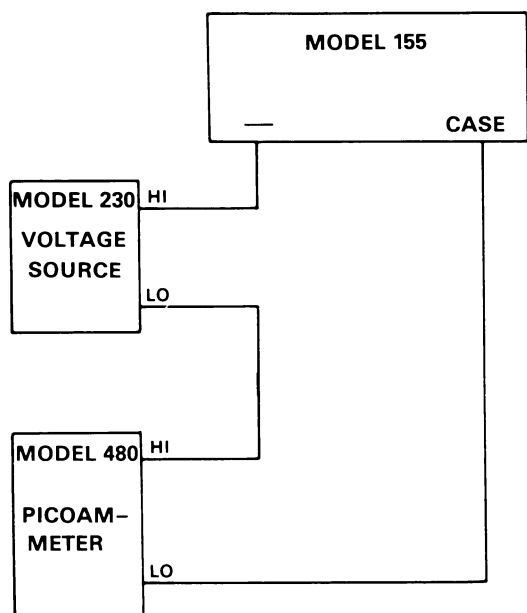

Figure 4-2. Isolation Test Circuit
- A. Set up the circuit in Figure 4-2.